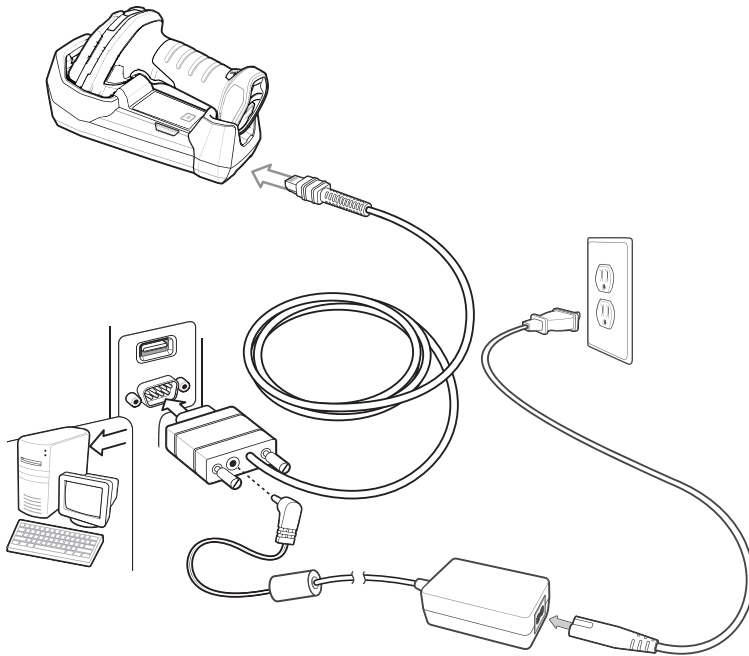

Figure 8-2 LI3678 Cordless Linear Imager RS-232 Connection
- ✓ **NOTE** Interface cables vary depending on configuration. The connectors illustrated in Figure 8-2 are examples only. The connectors may be different from those illustrated, but the steps to connect the cradle remain the same.